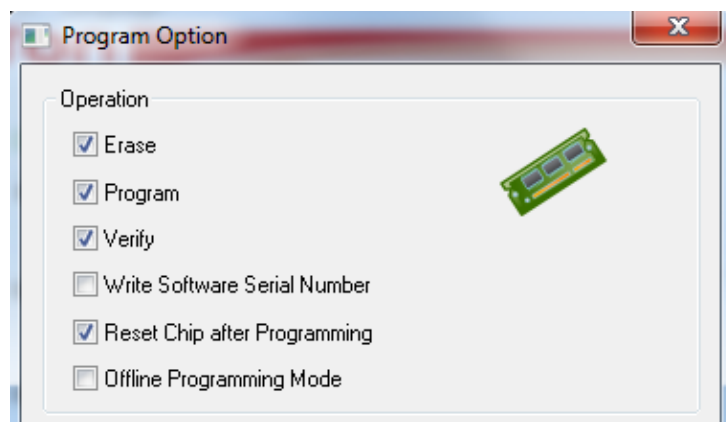

Figure 4-3 Program Option Select
6. Select "Erase", "Program", "Verify", and "Reset Chip after Programming" options, as shown in Figure 4-3.